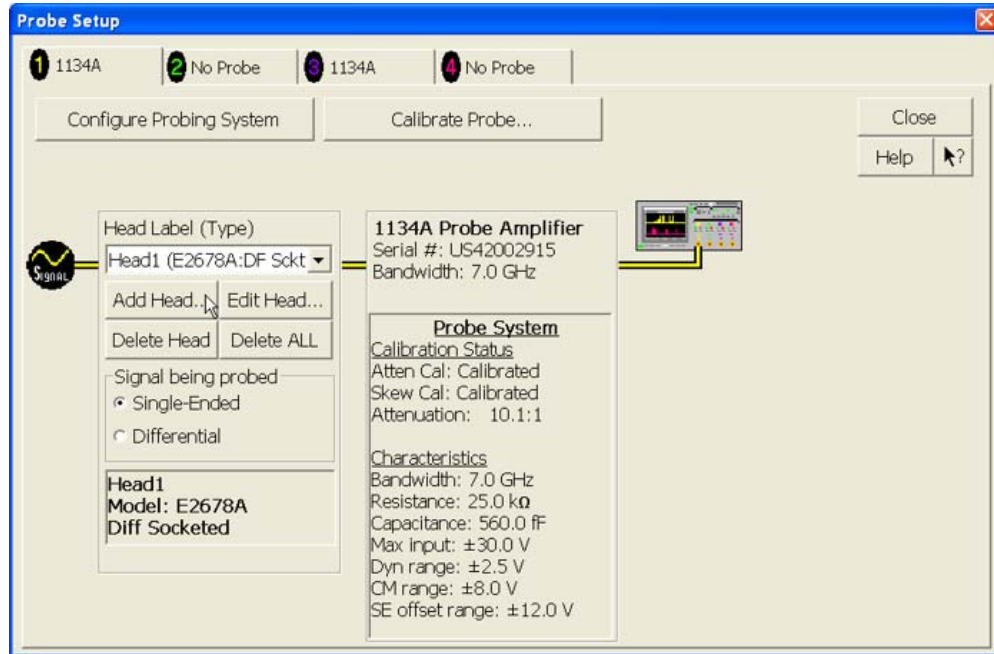

Figure 102 Probe Setup Window.
- 2 Referring to Figure 102 below, perform the following steps: